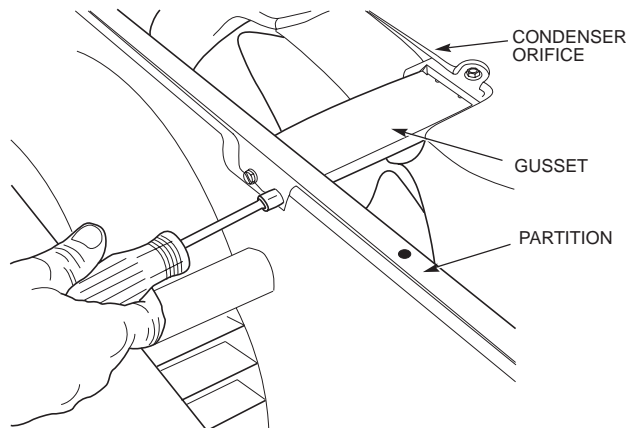

FIGURE 18 — GUSSET REMOVAL
2. Remove the screw that secures the gusset to the plastic condenser orifice and remove the gusset. See Figure 18.